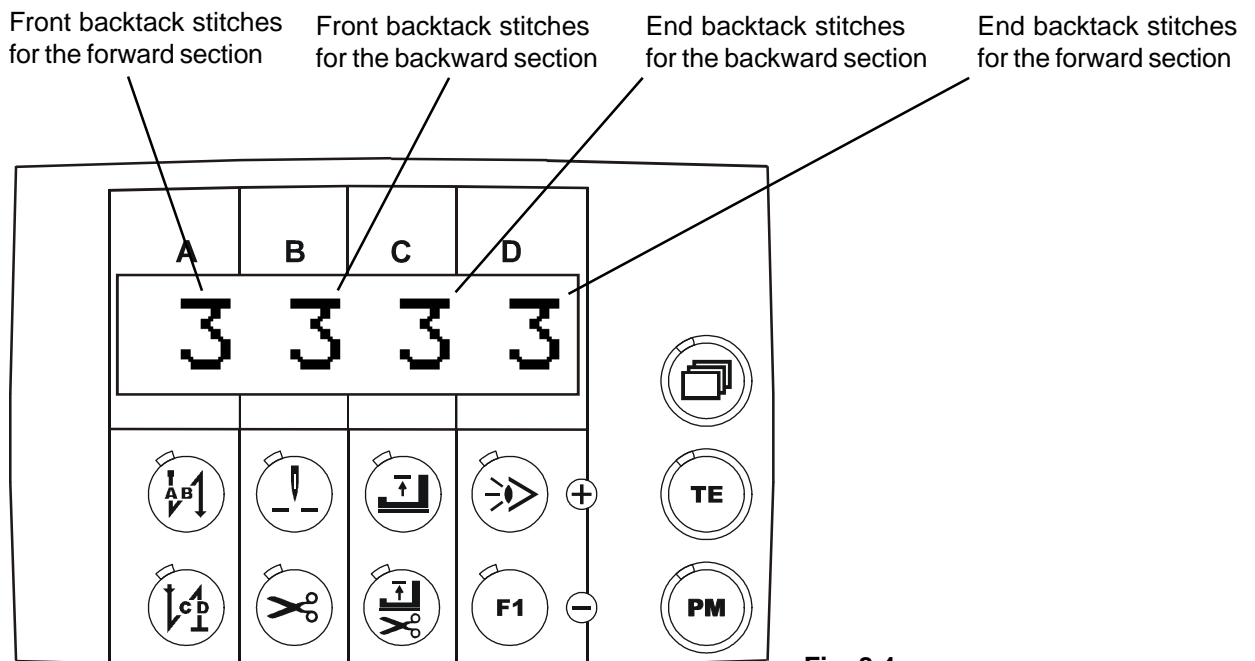

Fig. 8.4
4.2 Press the paging key until the display **Fig. 8.4** appears